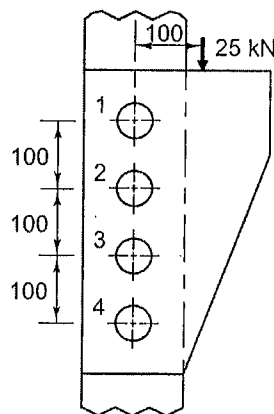

Fig. Q2c
c) A bracket, attached to a vertical column by means of four identical rivets, is subjected to an eccentric force of 25 kN as shown in Fig. Q2c. Determine the diameter of rivets, if the permissible shear stress is 60 N/mm². [10]